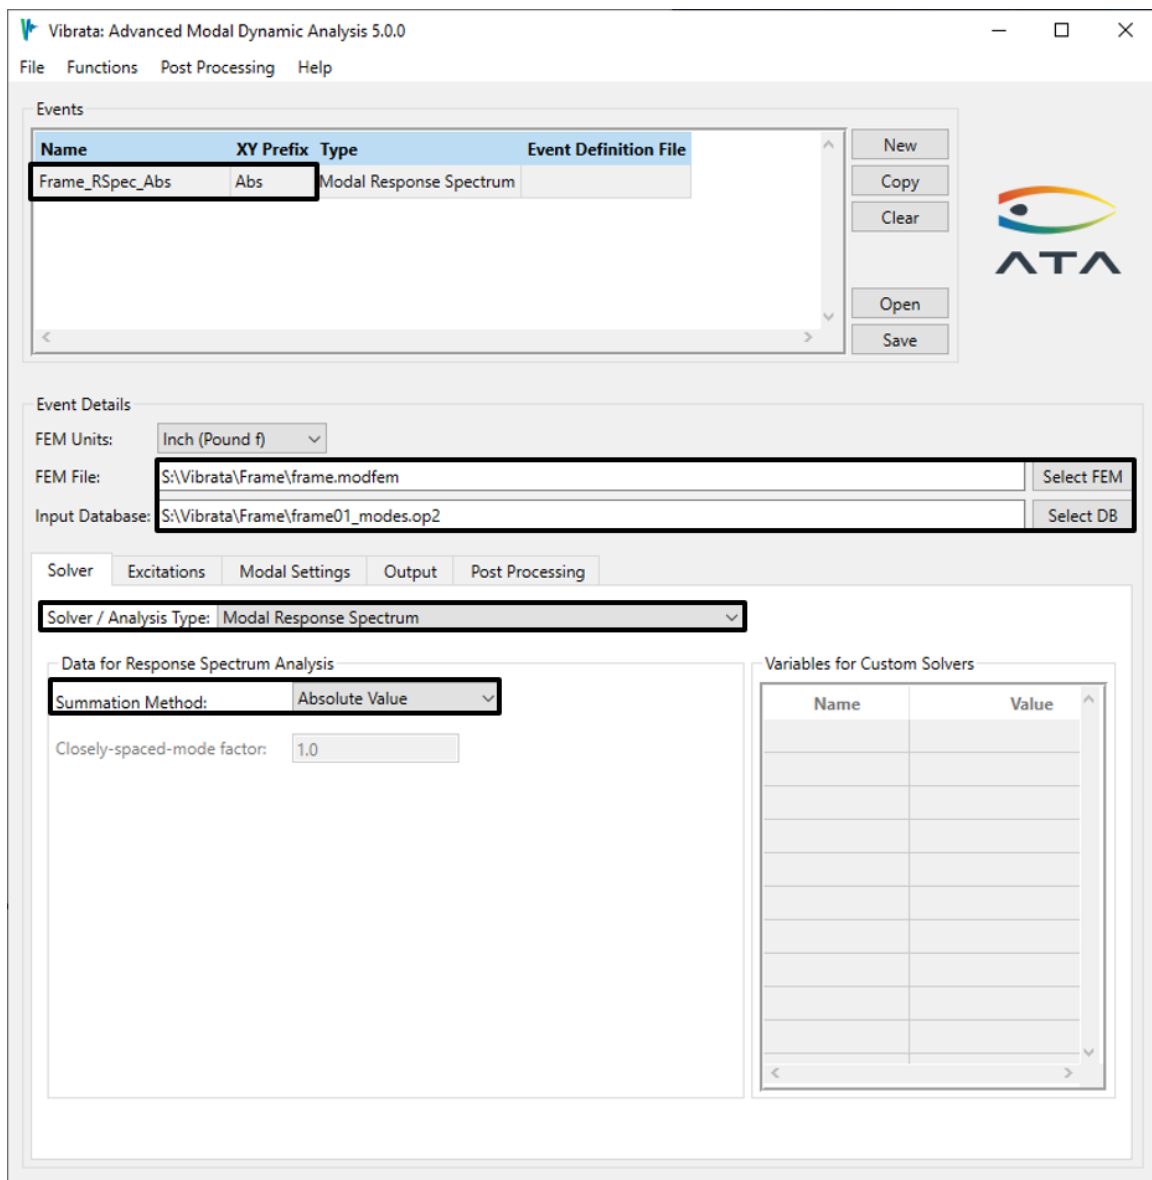

Figure 4-77. New response spectrum event with absolute value summation.
2. Create a new Vibrata event, select the "frame.modfem" file for the FEM and "frame01\_modes.op2" for the results, and create a Modal Response Spectrum event with the **Summation Method** set to *Absolute Value* (Figure 4-77).